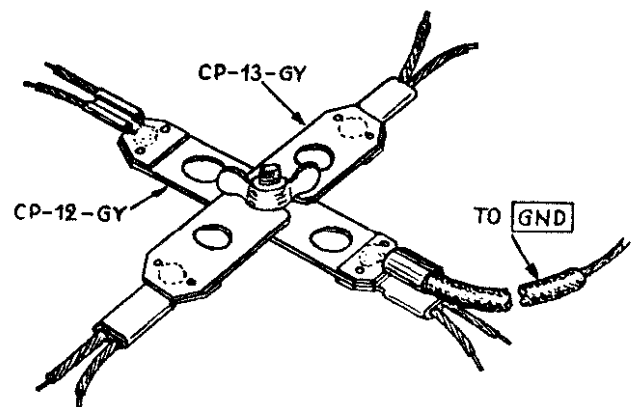

Figure 17. Counterpoises CP-12-GY and CP-13-GY
d. **COUNTERPOISES CP-12-GY AND CP-13-GY** (fig. 17). When Receiver-Transmitter RT-77/GRC-9-GY is used as a portable unit with
the whip antenna, Counterpoises CP-12-GY and CP-13-GY are fitted together forming a radial network of eight wires and placed on the ground (fig. 35) beneath the whip antenna. They are used to act as a more efficient ground. Counterpoises CP-12-GY and CP-13-GY are supplied and stored together on Reel RL-29-GY. They are made up of heavy, flexible, rubber-covered wires. Figure 17 shows the connecting links.